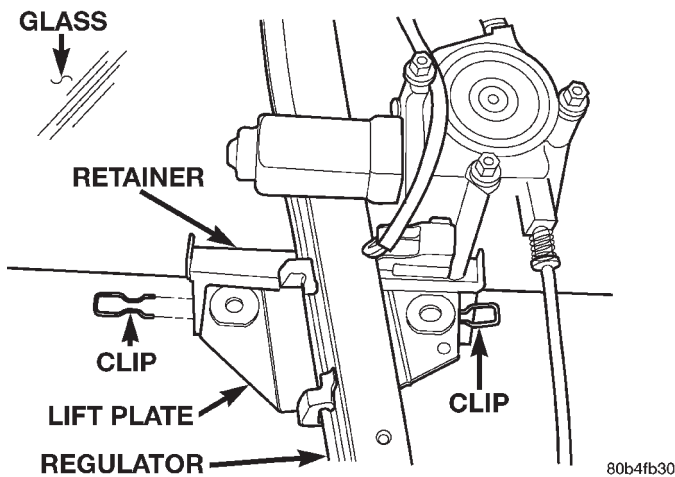

Fig. 32 Front Door Glass Clips
- (5) Locate glass to 3/4 up position.
- (6) Remove front door insulator.
- (7) Using a long flat blade or hook type tool, disengage clips (Fig. 32) attaching glass retainer to glass lift plate.